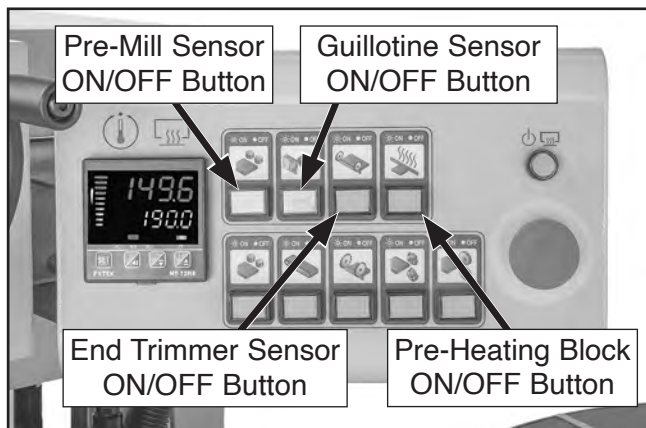

Figure 38. Location of ON/OFF buttons controlling pre-mill, guillotine, end trimmer, and pre-heating block sensor.
8. Press pre-mill sensor ON/OFF button (see **Figure 38**); button will illuminate, indicating sensor is activated. Press button again; button will darken, indicating sensor is no longer activated.